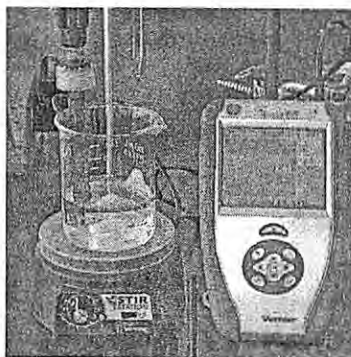

Figure 16.1: Digital Interface with pH probe.
1. Figure 16.1 shows a typical set up for following the change in pH during titration using an interfaced pH probe. You can use the figure as a guide if you are using the same or a similar device; otherwise follow your teacher's instructions for setting up the titration system.